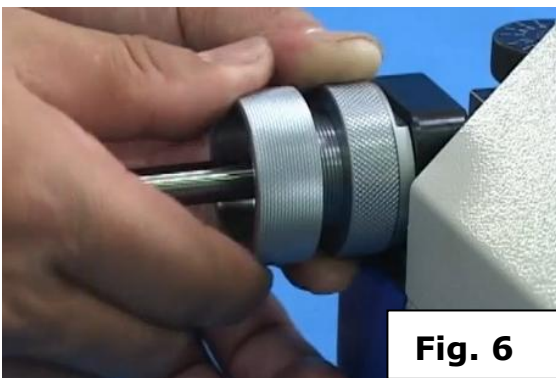

Fig. 6
- In this position the drill tighten the collet with the right hand in a clockwise direction. (Fig. 6)